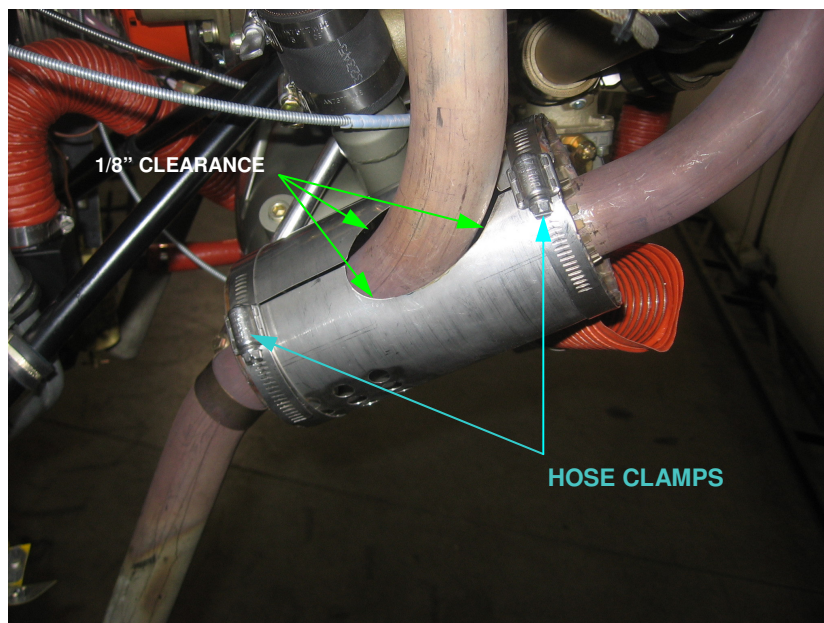

FIGURE 2: Heat Muffler Assembly, RH (Carb Heat)
5. Install Heat Muffler Assembly, RH (Carb Heat) on right-hand side (pilot's view) of engine. Mufflers should be located directly behind weld. See Figure 1. Ensure at least 1/8" clearance between muffler cut-out and exhaust stack, all the way around. Grind muffler assembly as needed. Secure with two (2) hose clamps (SP57001-001). See Figure 2. (Figures 2 and 3 do not show weld that will exist when retrofit is done in the field.)